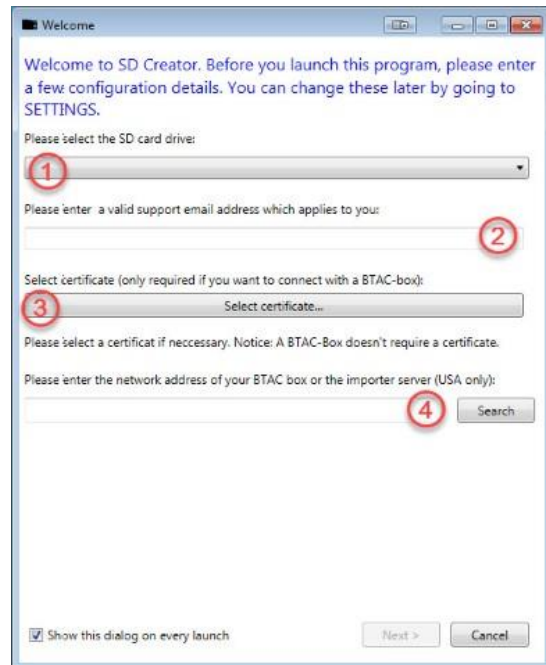

Figure 2. Initial Setup Screen.
- When prompted, select the drive letter for the SD card (Figure 2 – item 1).
- Enter the support email address, “SDCreatorSupport@audi.com” (Figure 2 – item 2).
- Select the MirrorServer certificate by selecting “Select certificate...” (Figure 2 – item 3).
- Enter the MirrorServer address (Figure 2 – item 4) by using **“mirrorserver2.vwhub.com”** (without quotes). Once set, the user can later verify this setting in the server section listed under the “settings” tab.
- Select “Audi” in the “Brand” drop down menu after item 4.